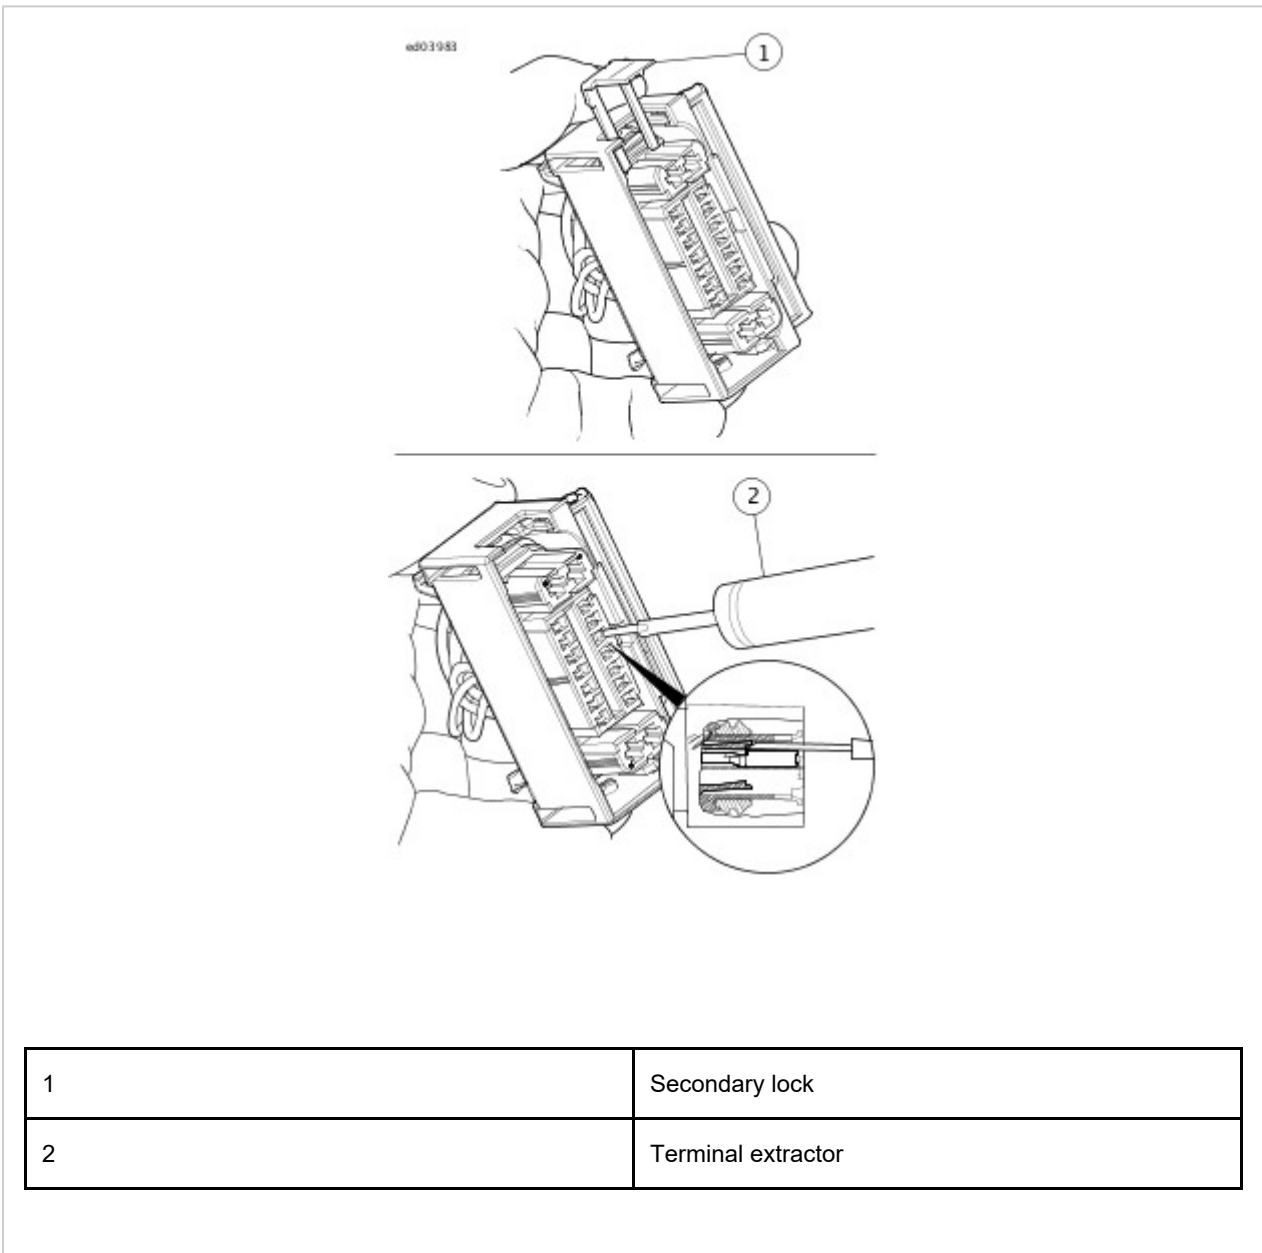

Figure 3. Removing Small Socket Terminals
3. See **Figure 3**. Insert the **TERMINAL EXTRACTOR (Part Number:B-50085)** into the cavity on the outside of